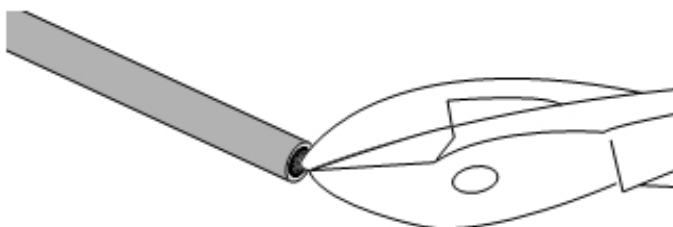

Figure 5
4.4 To ease installation, trim the end of the cable with side cutters to remove any protruding buffered fibers, yarn, or central member (Figure 5)